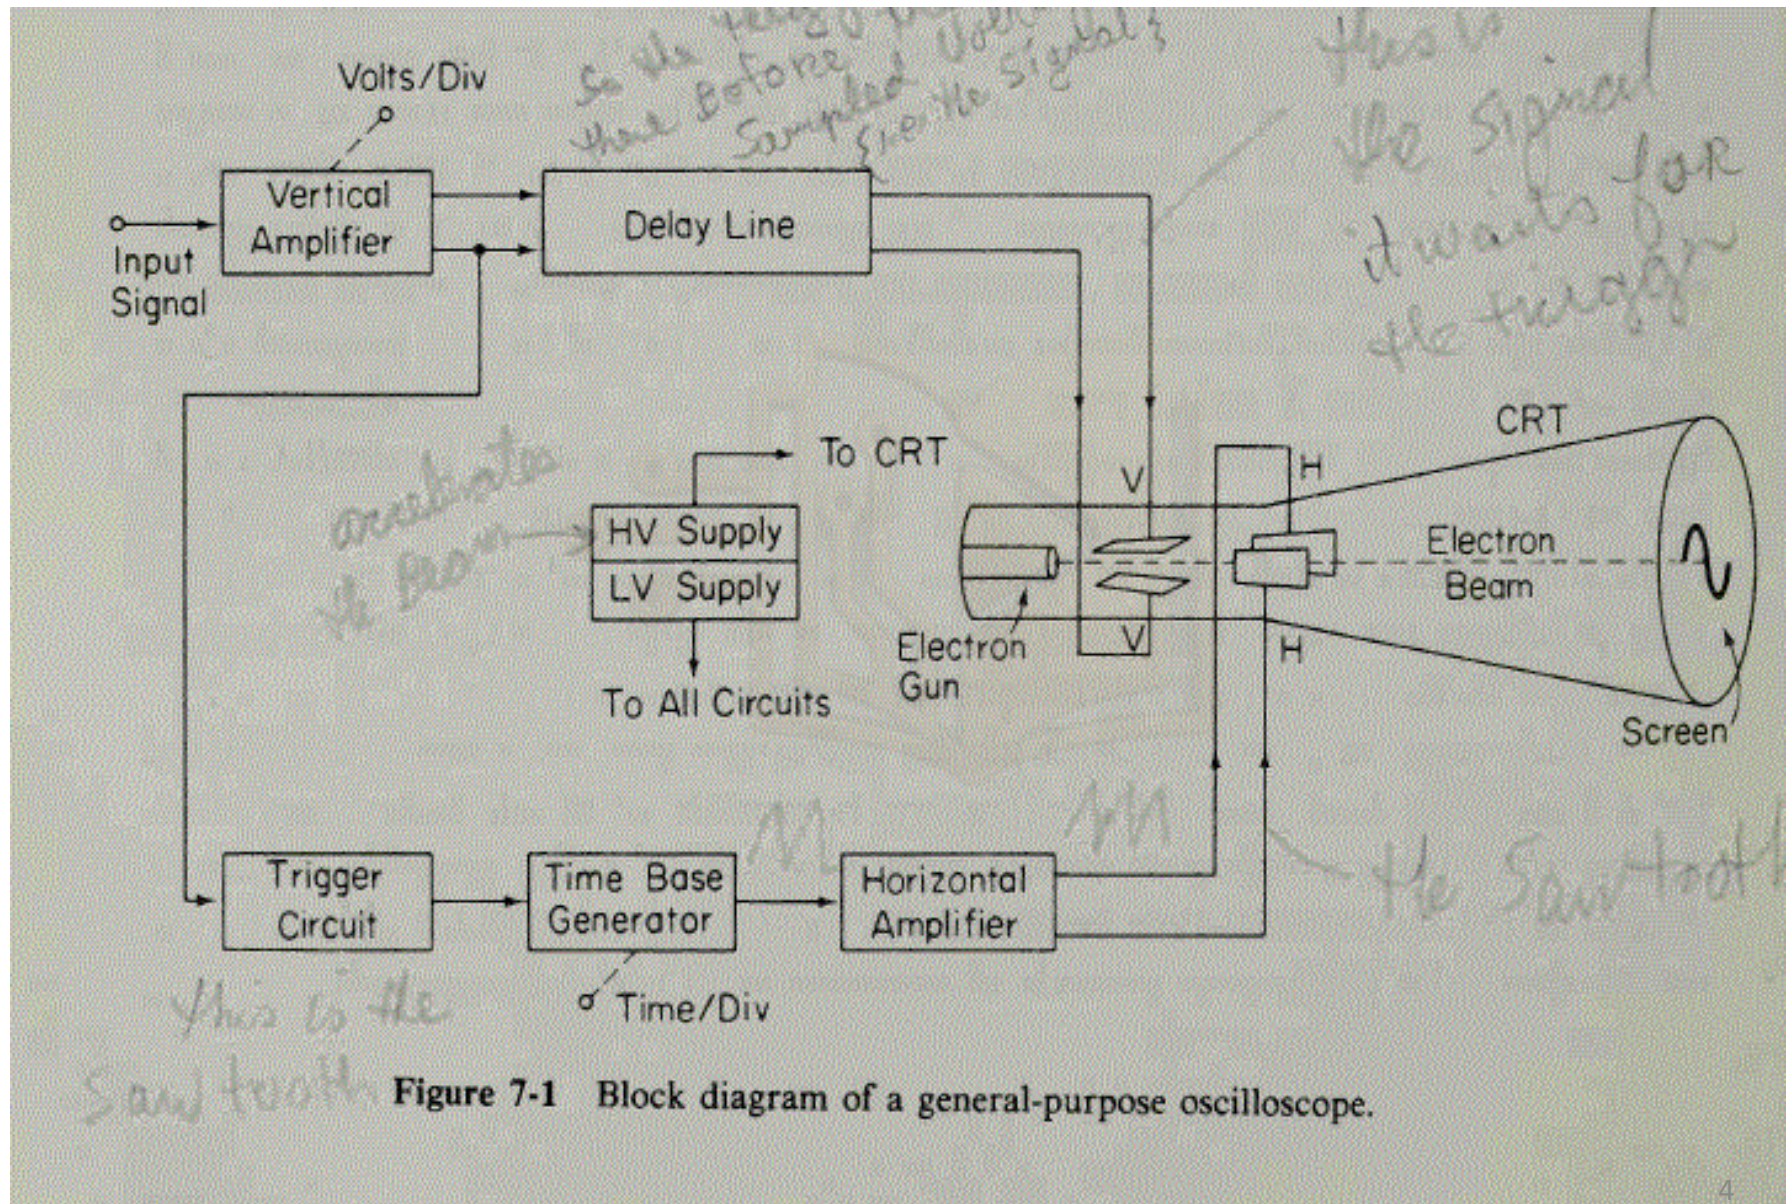

Figure 7-1 Block diagram of a general-purpose oscilloscope.
- To accomplish these tasks, various electrical signals and voltages are required, and these requirements dictate the remainder of the blocks of the oscilloscope outline as shown in Fig. 7-1.